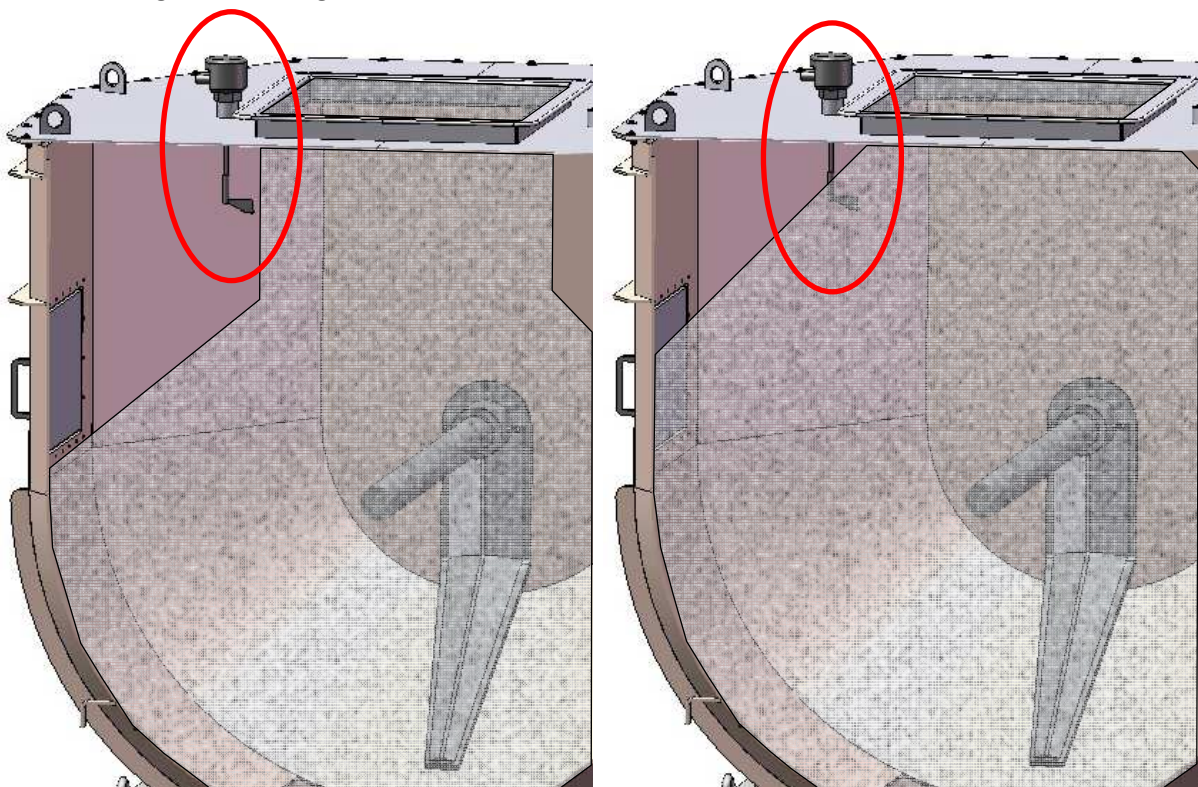

Fig. 1: Optimal position of the overfilling sensor in relation to the material angel of repose.
- 6) The overfilling sensor has to be positioned in relation to the material angel of repose to certainly indicate maximal level of material in the inlet chute area. At the same time it has to be outside of the material falling stream. (see Fig. 1) The overfilling sensor can not reach into the agitator moving area.